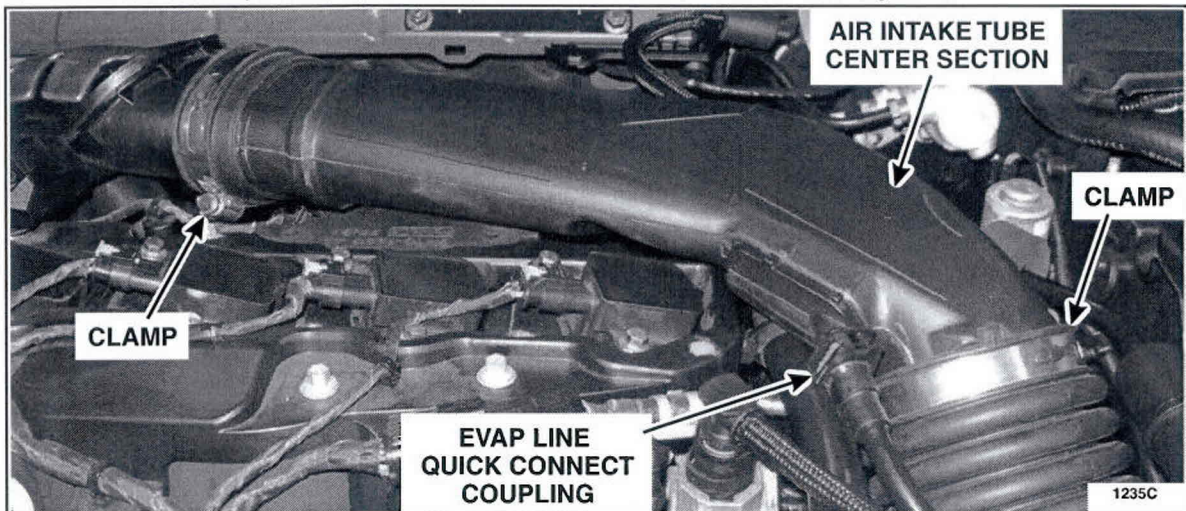

FIGURE 3
8. Disconnect the EVAP line quick connect coupling from the air intake tube center section. Set the clip aside for re-installation to prevent it from falling into the engine compartment. See Figure 3.
9. Loosen the 2 clamps and remove the air intake tube center section. See Figure 3.